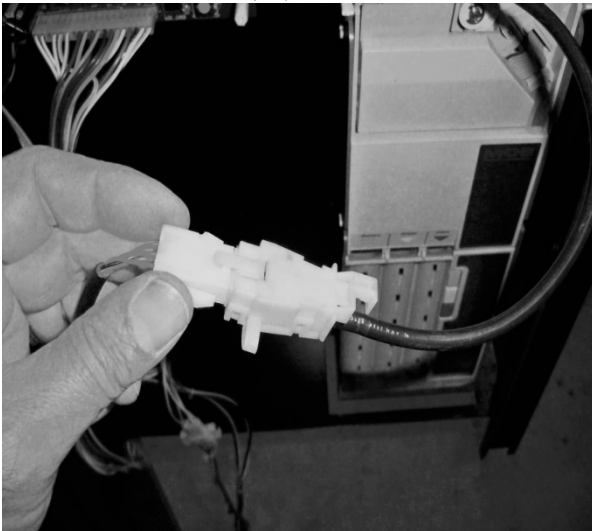
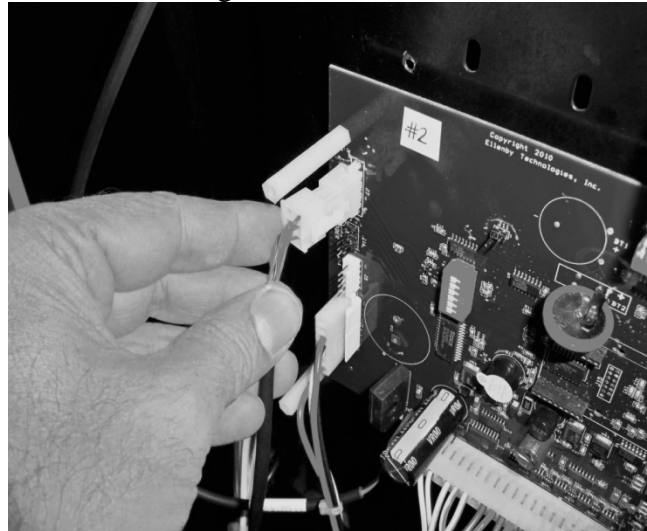

Figure 24
Figure 25
18. Connect MDB extension cable (11-1700-06) to the Coin Mech., as shown in figure 24, and to the “MDB” connector (J7) on the VMC control board as shown in figure 25.